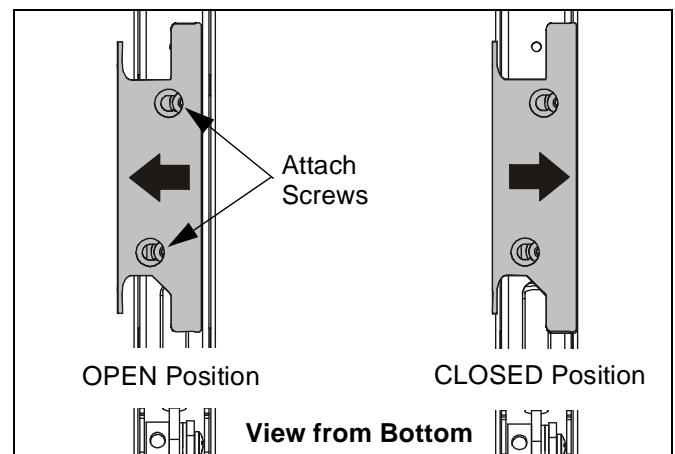

Figure 6: Height Adjustable Arm - Cable Management Bracket
2. Open the cable management bracket by sliding it towards the edge of the arm (see figure 6).
- Close cable management bracket by sliding it back towards the centerline of the arm (see figure 6).